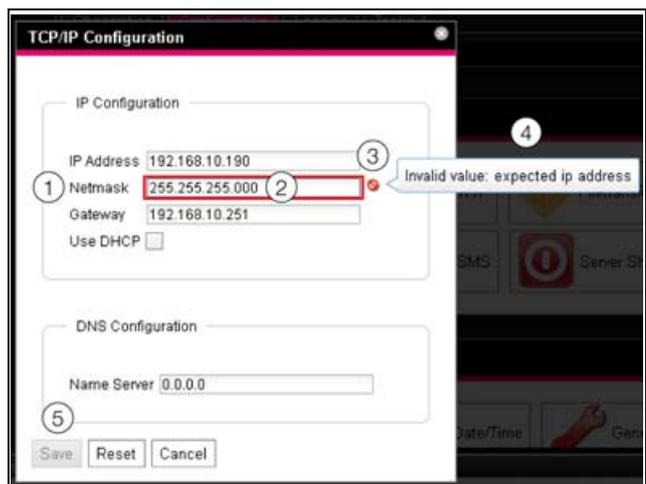

Fig. 69: Display of an incorrect entry
- A red "prohibited symbol" (fig. 69, item 3) appears after the incorrect entry (fig. 69, item 2) in the **Net-mask** field (fig. 69, item 1)
- By holding the mouse pointer over the prohibited symbol, additional information about the error will appear (fig. 69, item 4).
- The **Save** button is deactivated (fig. 69, item 5), so that the current values cannot be saved.